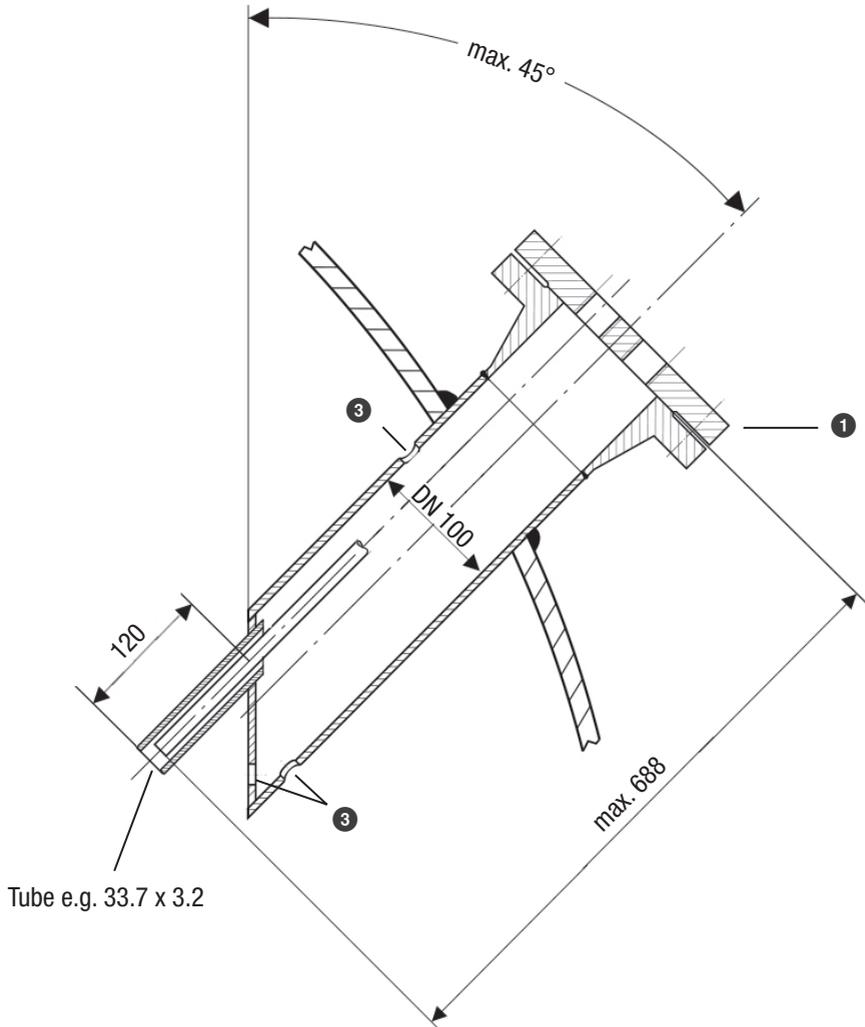

Fig. 14
- The angle of inclination of the level electrode may be 45° only if it is used in a two-hole flange, with the length of the electrode rod limited to 688 mm maximum, see Fig. 14.
- Pay attention to the minimum clearances when installing the level electrode, see installation examples Fig. 10 to Fig. 14.
Key Fig. 10 to Fig. 14